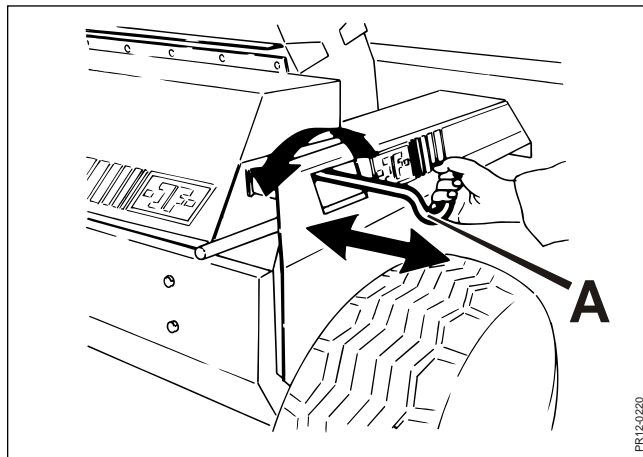

Fig. 4-26
- Fig. 4-26** 3. Adjust the grindstone so that there is 2-3 mm clearance between the stone and the blades by turning the handle A.